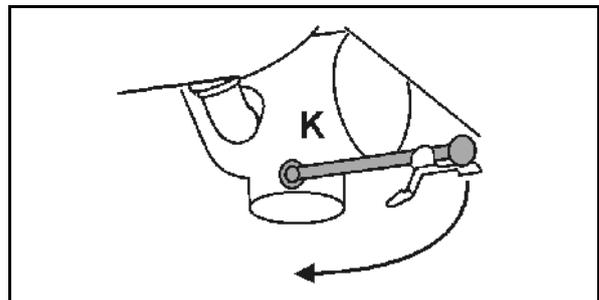

Fig. 110
6. If necessary, drain the remaining residue on the field via the drain tap (Fig. 110/K).